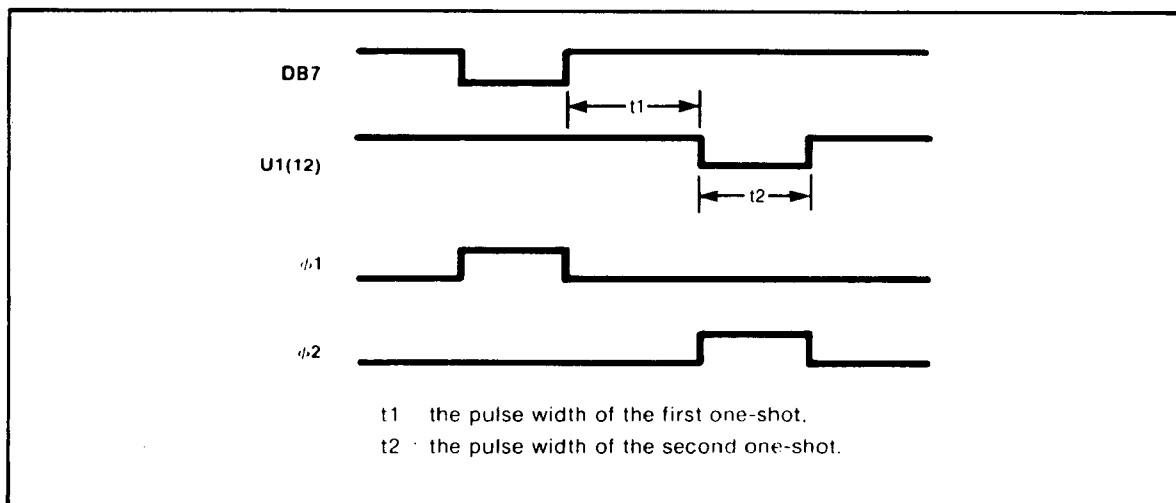

Figure 8-22. LCD Synchronization and Timing Diagram
8-344. Synchronization and timing are governed by two non-overlapping clocks, $\phi 1$ and $\phi 2$. $\phi 1$ is generated in software and comes to A7 via DBUS 7, through inverting buffer U6C, to the display drivers. $\phi 2$ is generated by dual monostable IC U1, on the A7 board. The first one-shot is triggered by the rising edge of DBUS 7. The resultant positive-going pulse at U1(13) is fed into the inverting input of the second one-shot at U1(9). On the falling edge of this pulse the second one-shot triggers, causing a negative-going pulse on its inverting output, U1(12). This pulse is then inverted by open-collector buffer U6B. Thus, the display drivers receive a positive-going pulse on their $\phi 2$ inputs, as shown in Figure 8-22.